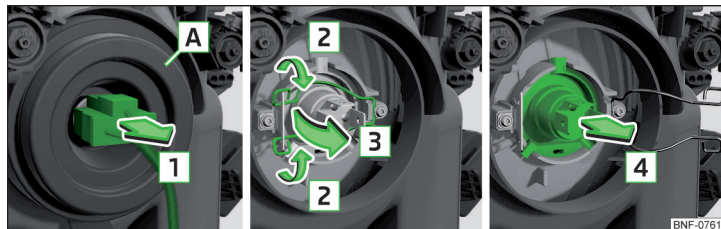

Fig. 141 Replacing the bulb for low beam and main beam
- Remove the connector from the bulb in the direction of arrow **1** » Fig. 141.
- Press the safety catch in the direction of the headlamp and then unhook in the direction of arrow **2** » Fig. 141.